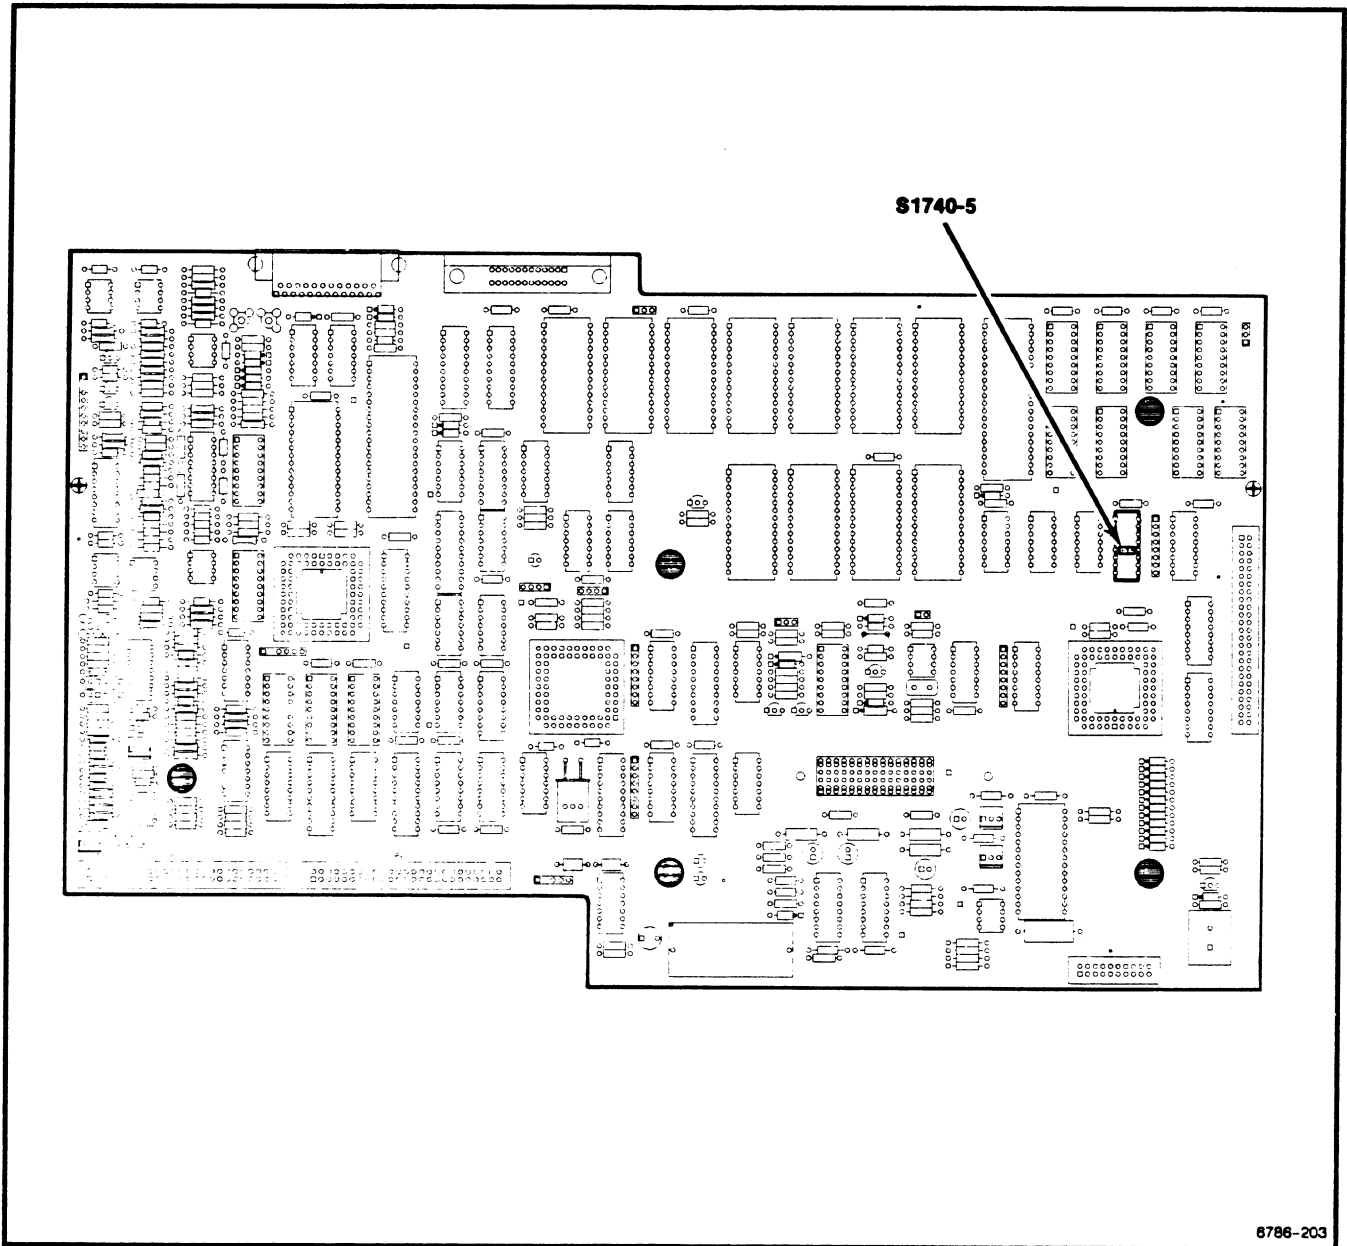

Figure 2-3. 11301/11302 A11 Main Processor board switch location.
1. Remove the top cover of the 11301 or 11302 mainframe and set switch S1740-5 on the A11 Main Processor board to the closed position. Refer to Figure 2-3 for the switch location.
- c. Set switch S1740-5 to the open position on the A11 Main Processor board. Reinstall the mainframe's top cover. Refer to Figure 2-3 for the switch location.